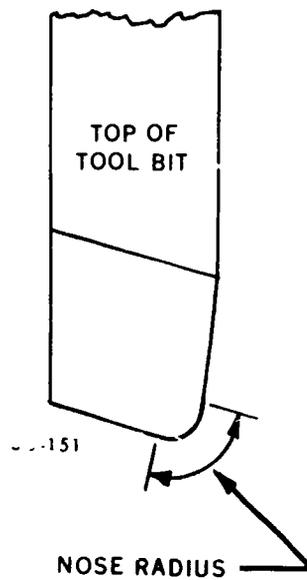
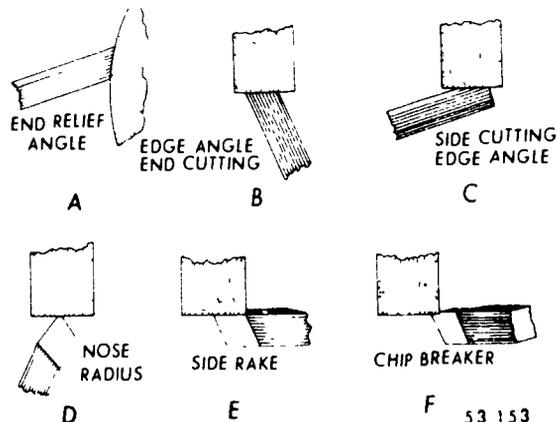
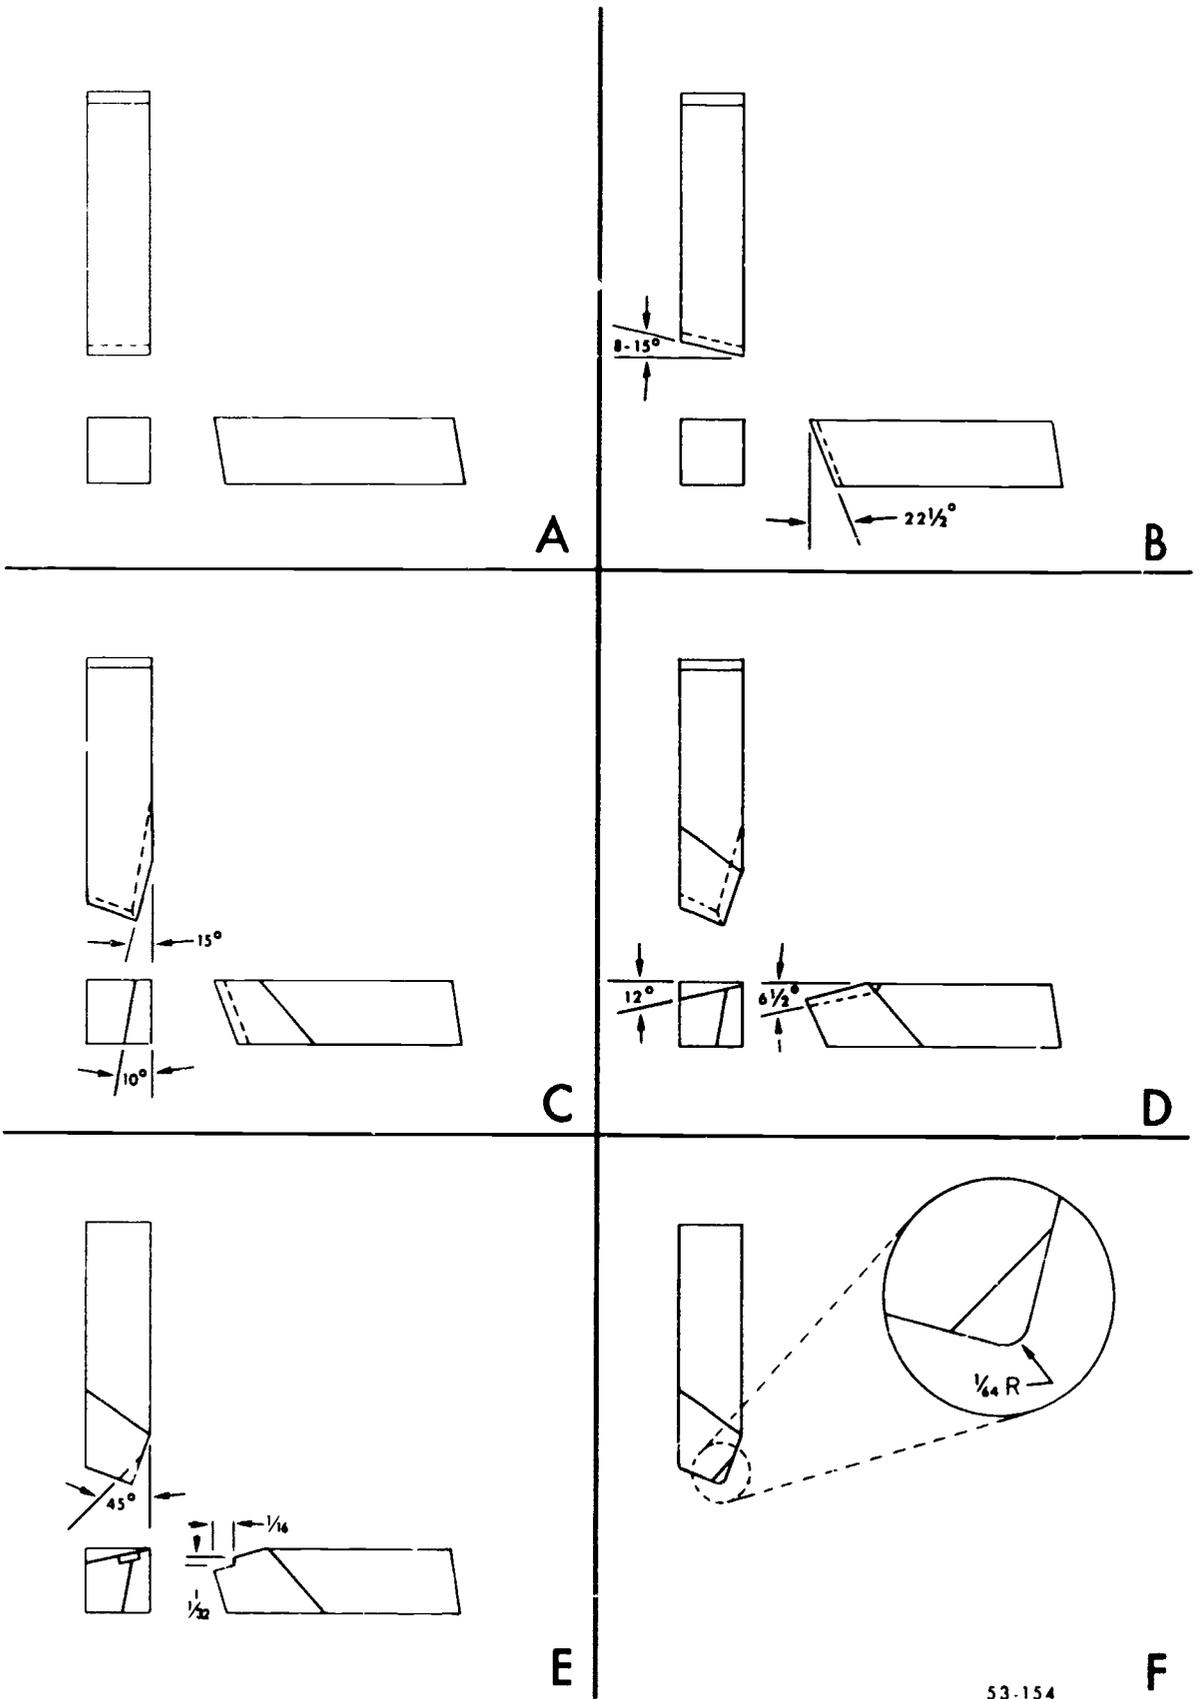

Figure 16. Nose radius.
Figure 18. Grinding a tool.
Figure 19. Development of a roughing tool.
2-12. *Nose radius.* The nose radius, as shown in figure 16, strengthens the tip of the tool, helps to radiate the heat generated by the cutting action, and helps to obtain a good finish. You will normally grind a $\frac{1}{64}$ -inch nose radius on tools $\frac{3}{8}$ inch square or smaller, and a $\frac{1}{32}$ -inch radius on tools from $\frac{3}{8}$ inch to $1\frac{1}{4}$ inches square. Some tools, such as the side-finishing tool, require very
2-14. **Grinding Cutting Tools.** A tool must be ground to the correct angles; and it must be sharp, or it will not cut properly. Use a protractor head and blade to check the tool angles as the grinding progresses. The following example will help you understand how the various angles are ground. Although the tool we are using for this example is a right-hand roughing tool for high-carbon steel, you can apply the information to nearly any type of tool. We will be referring to figures 18 and 19 frequently during the grinding of the tool.
- Tool blank, as shown in figure 19,A.
(2) True and dress the grinding wheel, if necessary, and reposition the tool rest.
(3) Position the tool, as shown in figure 18,A and B, and grind the end relief and end cutting edge angles.
The tool should look like the one shown in figure 19,B, after you have ground the end relief and end cutting edge angles.
Position the tool as shown in figure 18,C, at the recommended 15° angle and tilt the tool forward 10° in order to obtain the desired angles. The lower edge of the tool will contact the grinding wheel first when the tool is positioned correctly. Grind the side cutting edge and relief angles until the cutting edge is the length you want.
Stop frequently and check the surface you are grinding to insure that the angles are correct. The tool should look like the one shown in figure 19,C, at this point.
Position the tool as shown in figure 18,E. Pull the right-hand end of the tool toward you $6\frac{1}{2}^\circ$ to provide the negative back rake angle. Tilt the top of the tool toward you to obtain the 12° side rake angle and lower the right-hand end of the tool until the cutting edge of the tool bit is horizontal. When the tool is positioned properly, press it straight into the grinding wheel. Stop and measure the rake angles frequently to insure that you are grinding them correctly. Grind the rake angles until the surface that produces them joins the surface that forms the side relief and side cutting edge angles. When you have completed grinding the rake angles, the tool should look like the one shown in figure 19,D.
Position the tool so that the back edge of the chip breaker is at an angle of approximately 45° to the cutting edge of the tool and the bottom surface of the chip breaker is parallel to the surface that formed the rake angles. Press the tool into the grinding wheel, as shown in figure 18,F. The chip breaker should be about 1/16 inch wide and 1/64 inch to 1/16 inch deep.
The tool should look like the one in figure 19,E, after you have ground the chip breaker.
(7) Grind the nose radius. Position the tool so that the entire edge that is formed by the intersection of the side relief and side cutting edge surface lightly contacts the surface of the grinding wheel, as shown in figure 18,D. Grind the radius by swinging the tool in a slight arc. The edge contacting the surface of the wheel should be the pivot point for the arc. Allow the radius that forms to blend smoothly into the end and side surfaces of the tool, as shown in figure 16. Check the nose radius with the 1/64-inch radius gage.
When the nose radius is correctly ground, the tool looks like the one in figure 19,F.